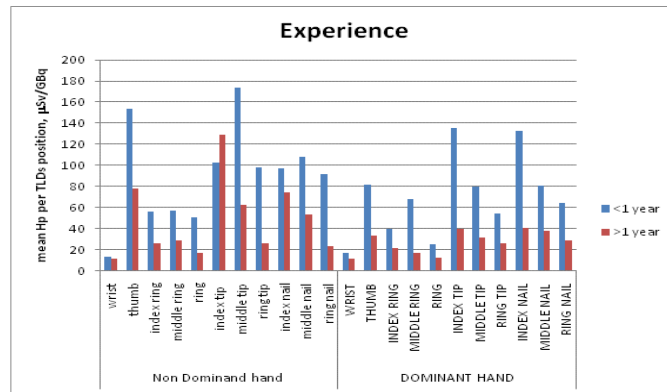

Figure 10: Example of experience histogram
- i. Histogram with mean dose per position separating by experience (where, low < 1year and high > 1year). Following Figure 10.